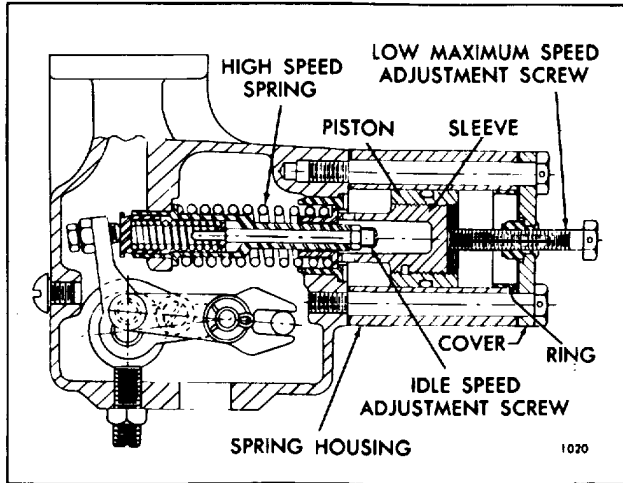

Figure 5 - Former Dual Range Governor
With the spring housing assembly mounted on the governor, the piston and sleeve assembly assembled as illustrated in Fig. 5, and the low maximum speed adjusting screw extended from the spring housing approximately 3/4" beyond the lock nut, proceed as follows:
- 1 Refer to Figs 5 and 6 and remove the spring housing to uncover the idle speed adjusting screw.